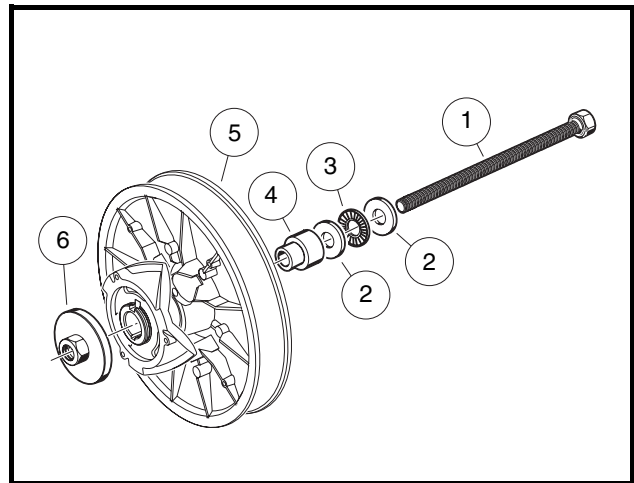

Figure 17-24 Cam Installation Tool
- 5.2.1. With the clutch loosely assembled, set the edge of the clutch body (5) on a clean, flat surface (**Figure 17-24, Page 17-17**).
- 5.2.3. Slide the bolt (1) through the clutch body (5) until the threaded bolt, washers, bearing, and hub guide are against the fixed face hub (**Figure 17-24, Page 17-17**).